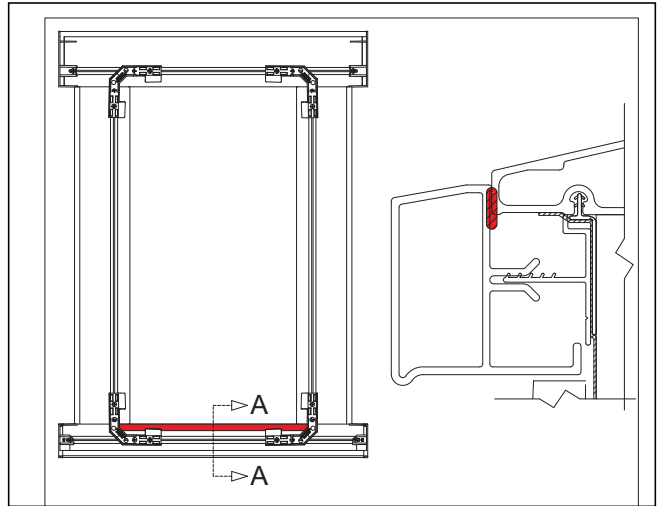

Figure 47
5. Apply a 3/16" (5) bead of clear grade NS class 25 sealant of the sill piece near the bump in the profile the length of the part, on the interior of the casing as shown in *figure 47*.